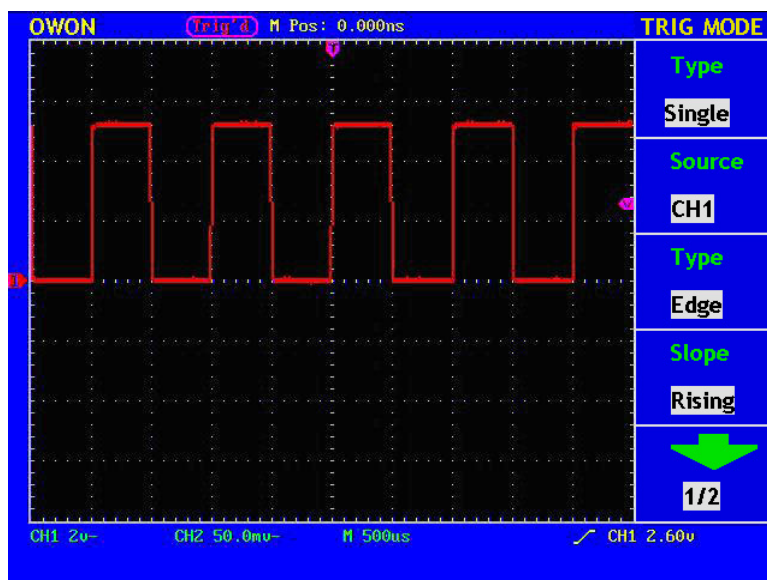

**Fig.5** Connection of the Probe
Connect the probe tip and the ground clamp to the connector of the probe compensator, shown as Fig.5.
1. Set the attenuation coefficient of the probe in the menu as 10X and that of the switch in the probe as 10X, and connect the oscilloscope probe with the CH1 channel. If a probe hook tip is used, ensure that it keeps in close touch with the probe. Connect the probe tip with the signal connector of the probe compensator and connect the reference wire clamp with the ground wire connector of the probe connector, and then press the button AUTOSSET (see Fig.5).